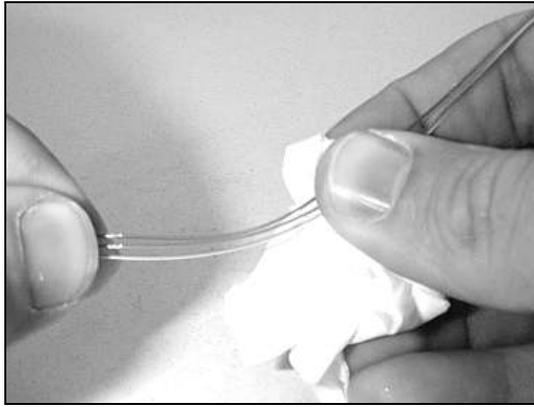

Figure 30 - Clean the optical fibers.
6.23 Clean the exposed fibers with a lint free wipe (Figure 30) and fasten the tube(s) to the appropriate splice organizer tray.